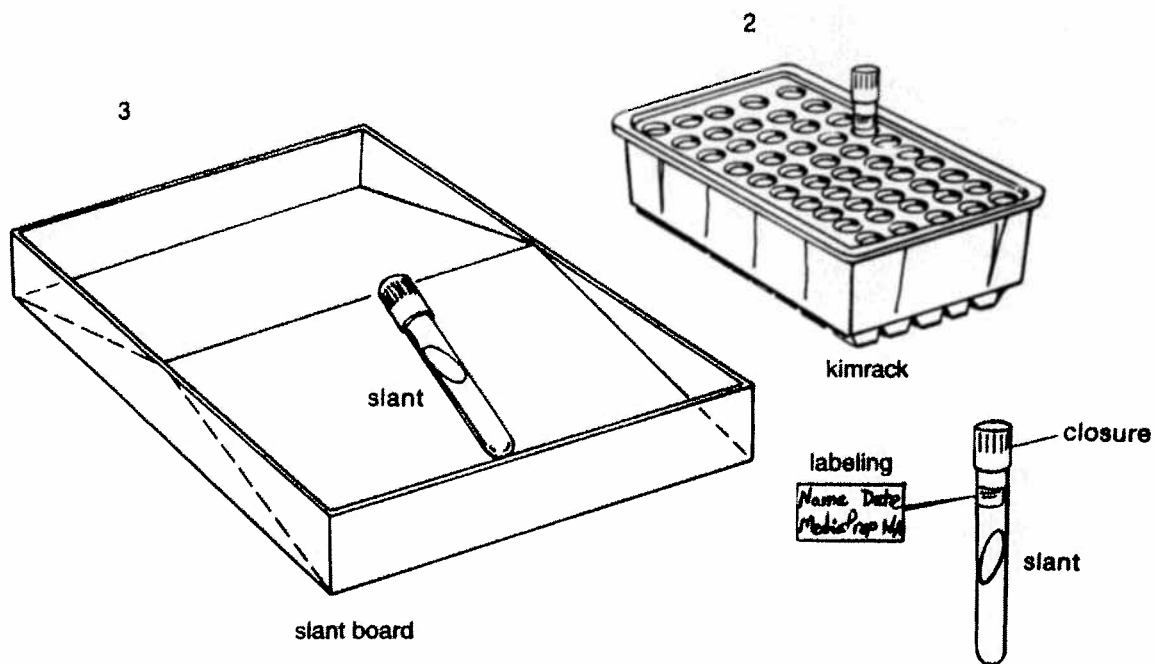

FIGURE 2-3
13. After the tubes and 8 oz bottle are sterilized and while the medium is still liquid, place the tubes for slants on the slant board (see Figure 2-3) and allow them to solidify. After cooling, refrigerate sterile media until you are ready to use them.